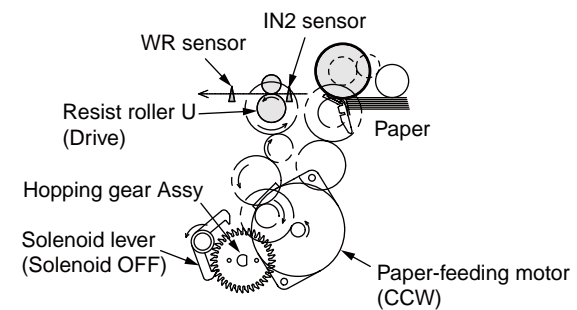

Figure 2-4
3. As shown in Fig.2-4, the paper-feeding motor is rotated (counter clockwise), and the paper is transferred by resist roller U. (When the paper-feeding motor is rotated counter clockwise, the resist roller U is driven.)